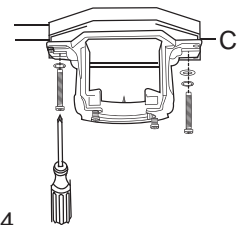

Fig. 4
4. Secure mounting bracket (C) to outlet box using screws, spring washers, and flat washers provided with the outlet box. [Fig. 4]
***Note:** It is very important that you use the proper hardware when installing the mounting bracket (C) as this will support the fan.